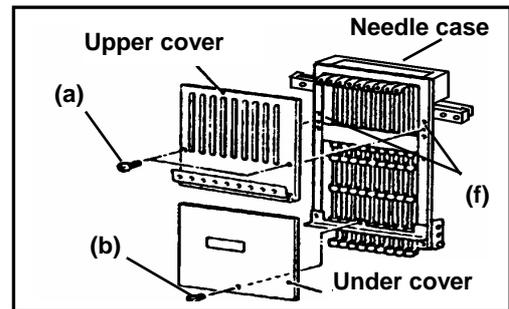

FIG.1
- (8) Turn DS1-1 on and turn the power on.
- (9) Press SET key in the test mode of LCD, locate the cursor at No.2 and press SET key.
- (10) Select the No.15 of a needle number by color change key.
- (11) Turn the hand wheel until the angle of LCD displays 107.5°.
- (12) Remove two setting screws (f) and pull out the needle case by holding it upwards. (Fig.1)